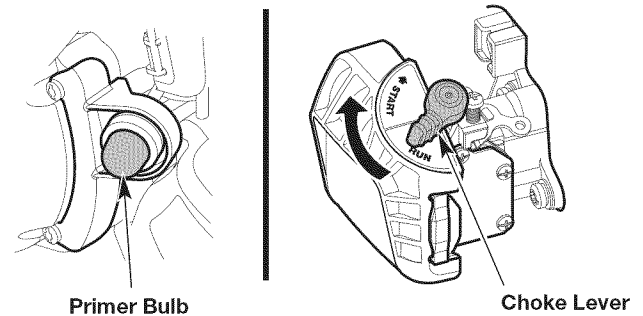

Fig. 6
3. Slowly press and release the primer bulb **10 times** (Fig. 6). If fuel cannot be seen in the primer bulb, press and release the primer bulb until fuel is visible.
5. **DO NOT** squeeze the throttle control. Flip the choke lever clockwise until it clicks into the **START** position (Fig. 6).